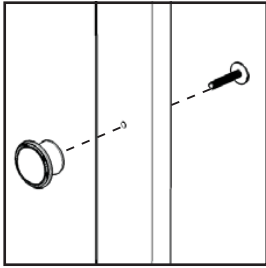

Figure 3
Attach Pull Handle to Door (N) with Machine Screw. (See Figure 3)